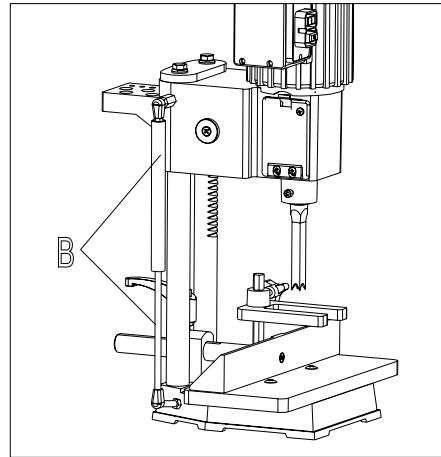

Fig5
2. Fig. 5, illustrates the gas spring (B) assembled to the machine. The gas spring (B) keeps the head in the up position.